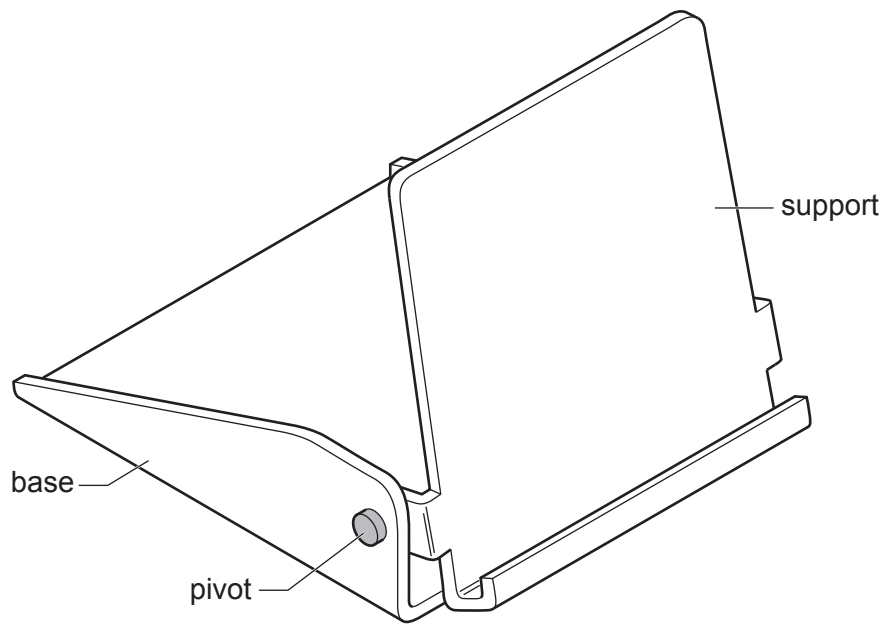

Fig. 12.1
- 12 Fig. 12.1 shows an incomplete design for an adjustable stand to support a tablet. The stand is made of 4 mm thick acrylic and could be made in a school workshop.